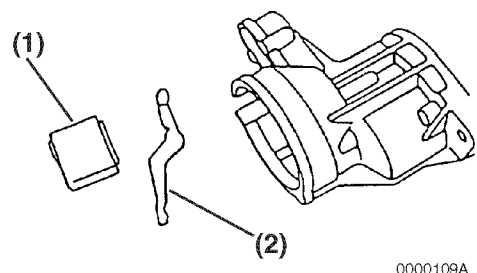

Figure 11-8
8. Disassemble the dust cover (Figure 11-8, (3)) and shift the lever (Figure 11-8, (4)) from the gear housing.